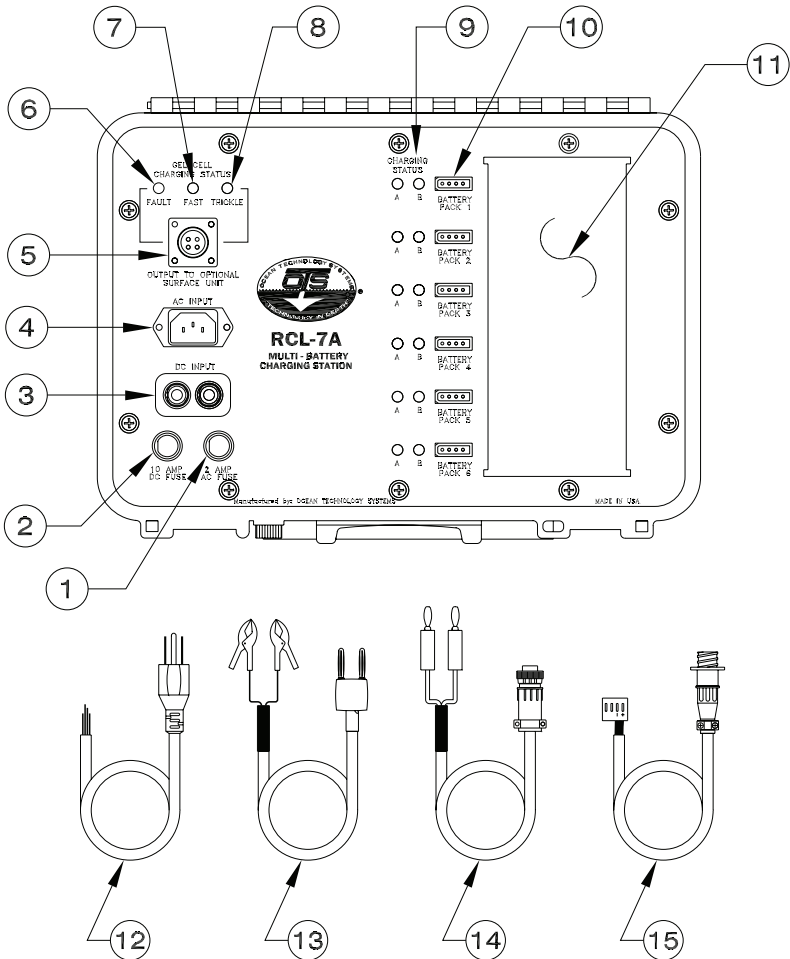

Figure 1. Components and Controls of the RCL-7A
Refer to Figure 1 for a diagram of the components and controls of the RCL-7A:
- For *DC power*, connect the DC power cable (Fig. 1, #13) to the DC input jacks (#3) on the RCL-7A. Be careful to observe the correct polarity (red to red, black to black) when connecting the DC cable to the RCL-7A. Connect the clamps on the other end of the cable to the DC battery terminals.
- For *AC power*, connect the AC power cable (Fig. 1, #12) to the AC input connector (#4). Plug the other end of the cable into the AC power source. (The AC power cable is provided without a plug, providing the flexibility for you to install the type of plug that your AC power source requires.)
1. Connect the surface unit charging interface cable (Fig. 1, #14) to the surface unit and the “Output to Optional Surface Unit” connector (#5) on the RCL-7A.